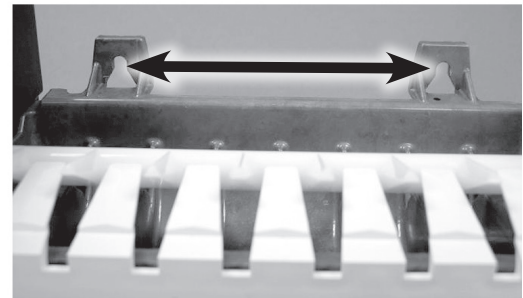

Figure 2
3. Lift the ice maker up and then twist the ice maker counter clockwise to disengage the two screws through the slots in the ice maker mold, see figure 2.